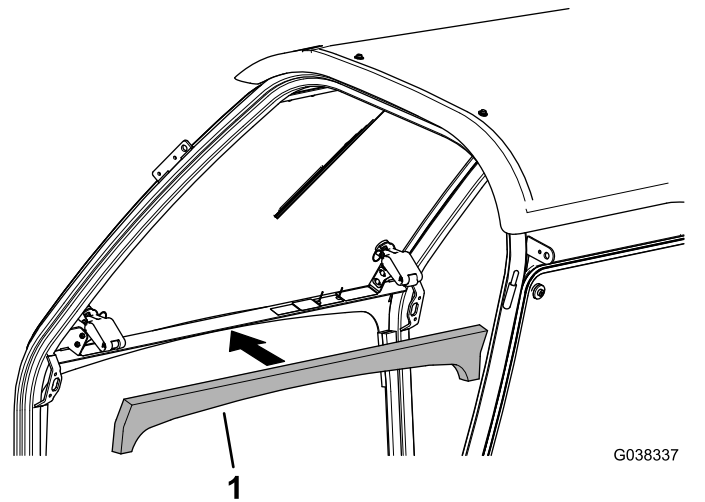

**Figure 9**
2. Remove the 3 screws and 3 nuts securing the left handhold, and remove it (Figure 9).
- Install the previously removed left handhold using the 3 screws and 3 nuts (Figure 9).